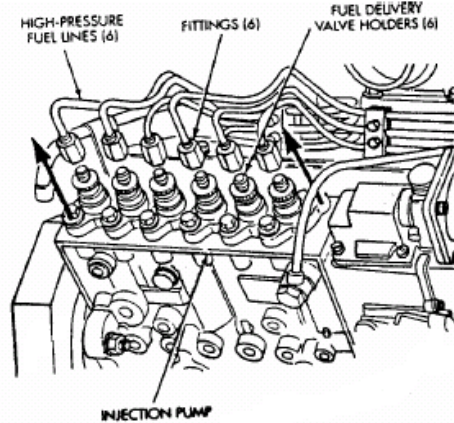

Fig 11: Delivery Valve Holders and Pressure Lines
- 5: Disconnect each high-pressure line fitting at each fuel injection pump delivery valve holder (Fig 11).